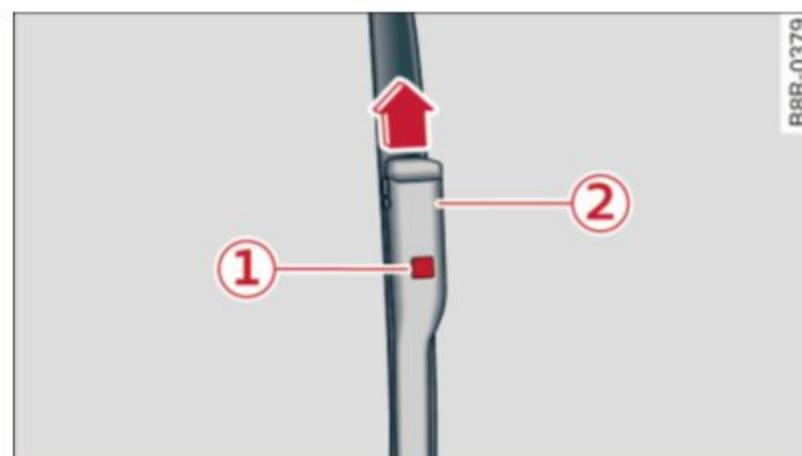

Fig. 54 Removing windshield wiper blade
- ▶ Press the locking knob ① ⇒ fig. 54 on the wiper blade. Hold the wiper blade firmly.